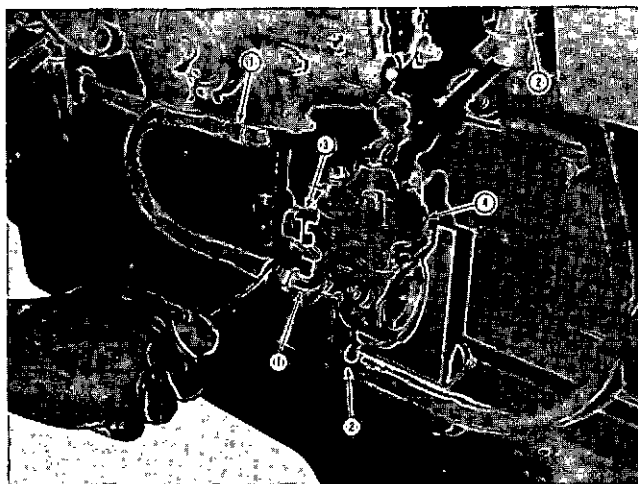

Fig. 14-1-105, V414188. Installing aneroid piping
1. Assemble control and mounting bracket with lockwashers and capscrews. Mount as an assembly as near fuel pump as possible. Fig. 14-1-105.
2. Install fuel pressure line from bottom of fuel pump (outboard fitting) to "IN" connection on aneroid control (1).